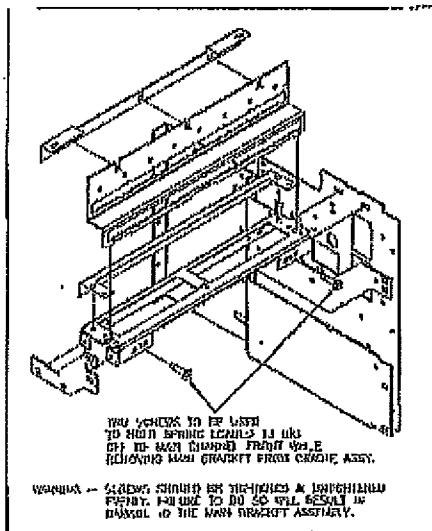

Figure 3-5.5D
Step 5. Remove the main bracket assembly by compressing the spring-loaded terminal mounting channel by turning the screws shown in Figure 3-5.5D to the right until the breaker secondary terminals are completely disconnected. Then remove the four screws at the top of the breaker as shown in Figures 3-5.5L and 3-5.5R.